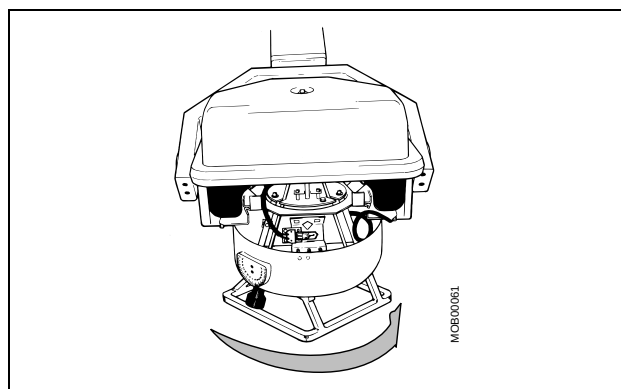

Fig. 3 Rotating the collimator
- Rotate the collimator to its end stop, as indicated in Fig. 3.